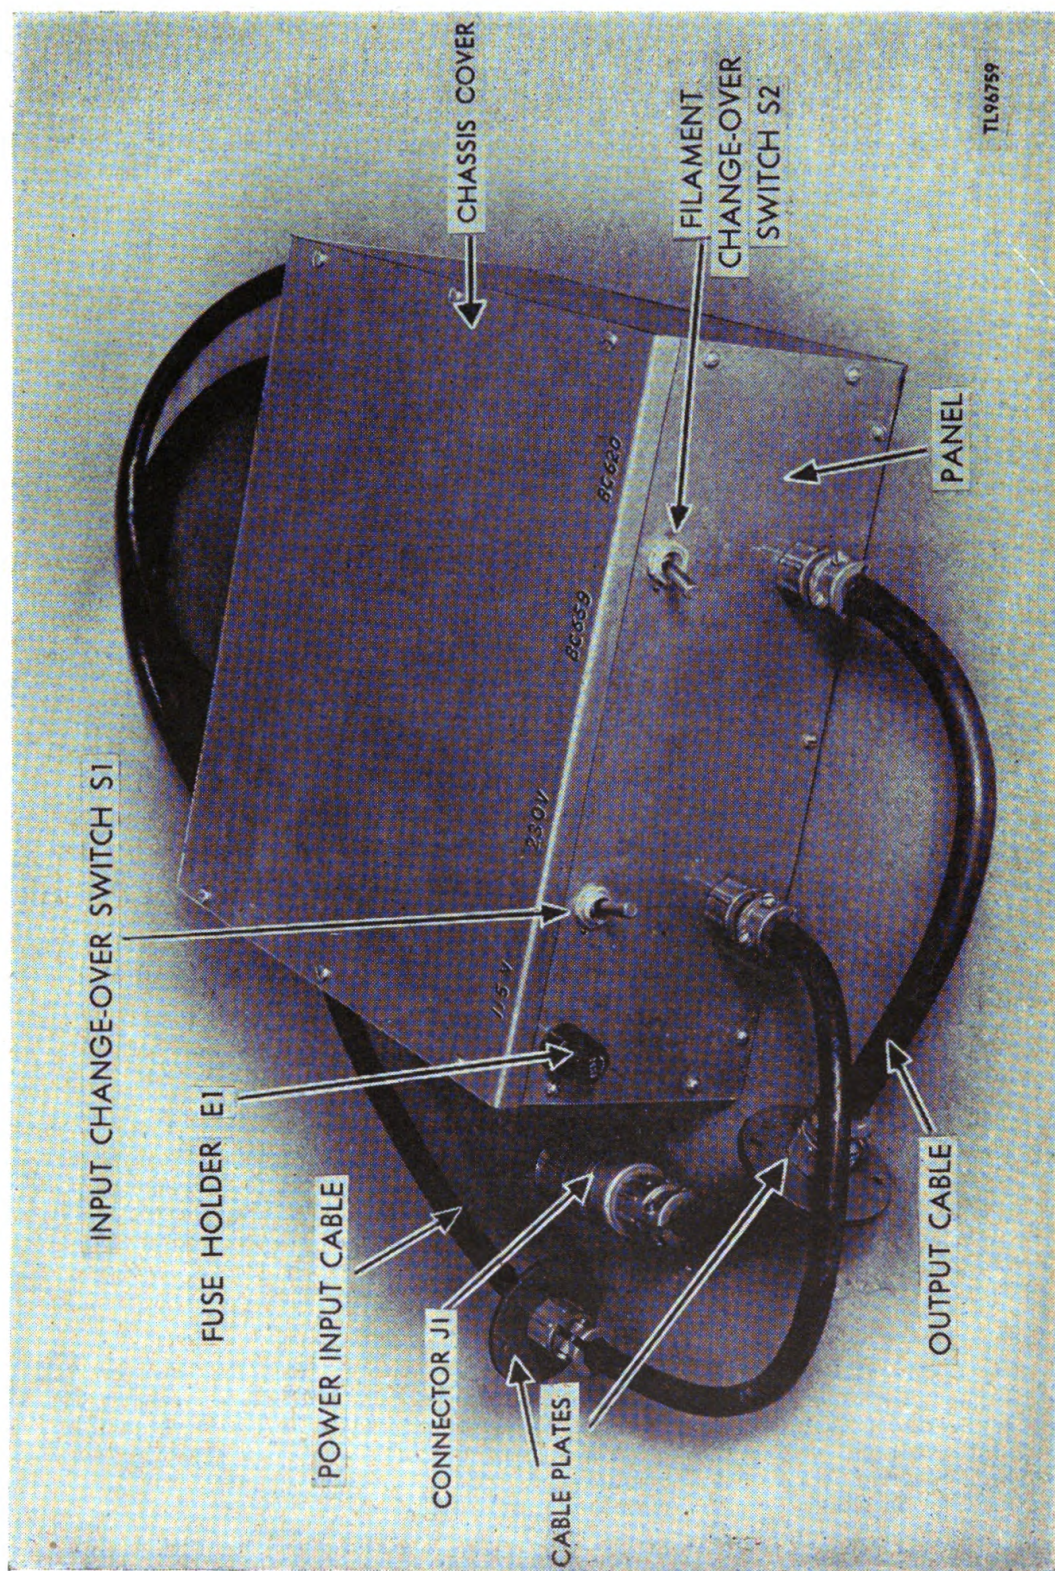

Figure 9. Rectifier chassis removed from case.
(2) Pull the cables through the holes in the carrying case so that the chassis may be lifted free of the carrying case and set on the work bench (fig. 9).